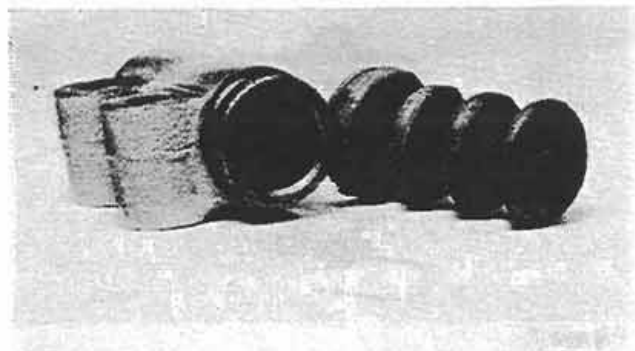

Figure 2:
4. Remove the rubber boot for access to the snap ring and piston (Fig. 2).